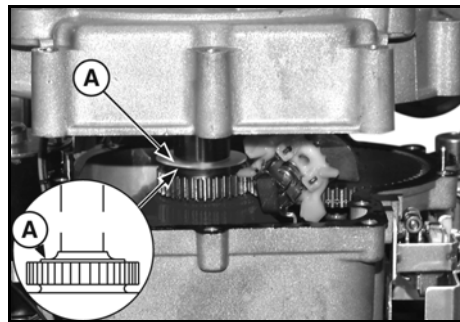

Figure 16
- Models 210000, 280000, 310000, 330000 Vertical Engines - install shim on PTO-end of crankshaft between the timing gear and crankpin (A, Figure 16).